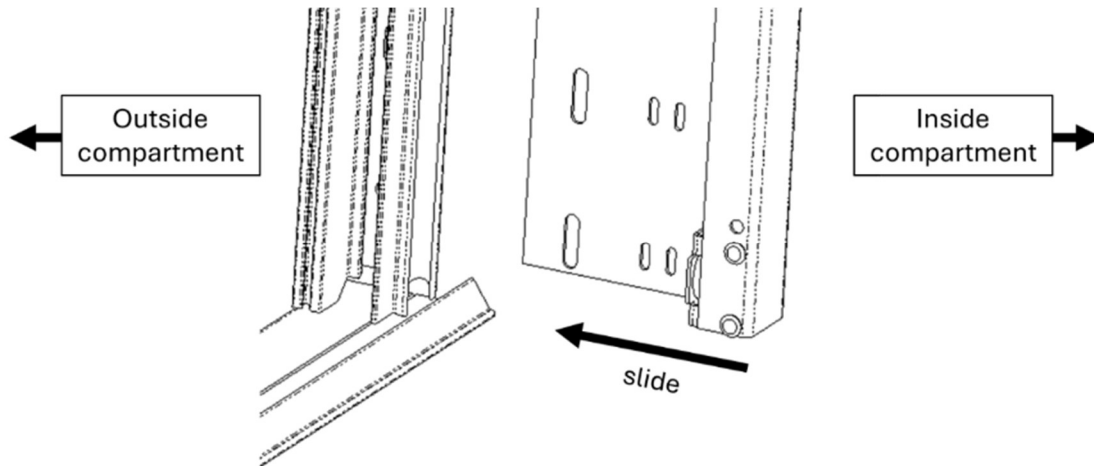

Figure 31 - Slide the cable shield behind the guide channel
1. Slide the cable shield behind the appropriate guide channel as shown in Figure 31.